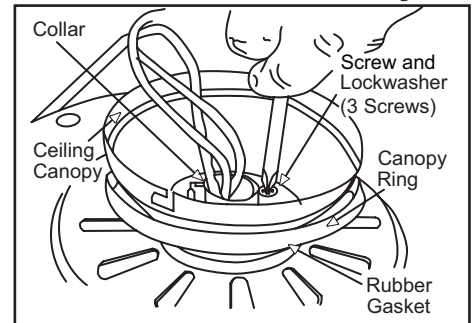

Figure 11
- Place the rubber gasket over the remaining three screws, route the wires exiting the top of the fan motor through the canopy ring (make sure the slot openings are on top), then proceed to place the ceiling canopy over the collar at the top of the motor (Figure 11).
- Align the mounting holes with the holes in the motor and fasten, using the three screws and lock-washers removed in step 4 (Figure 11).